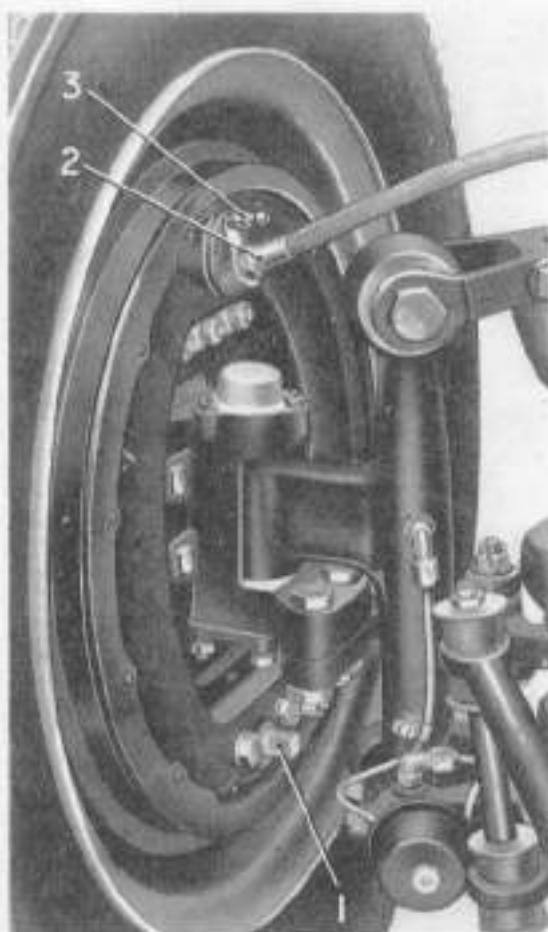
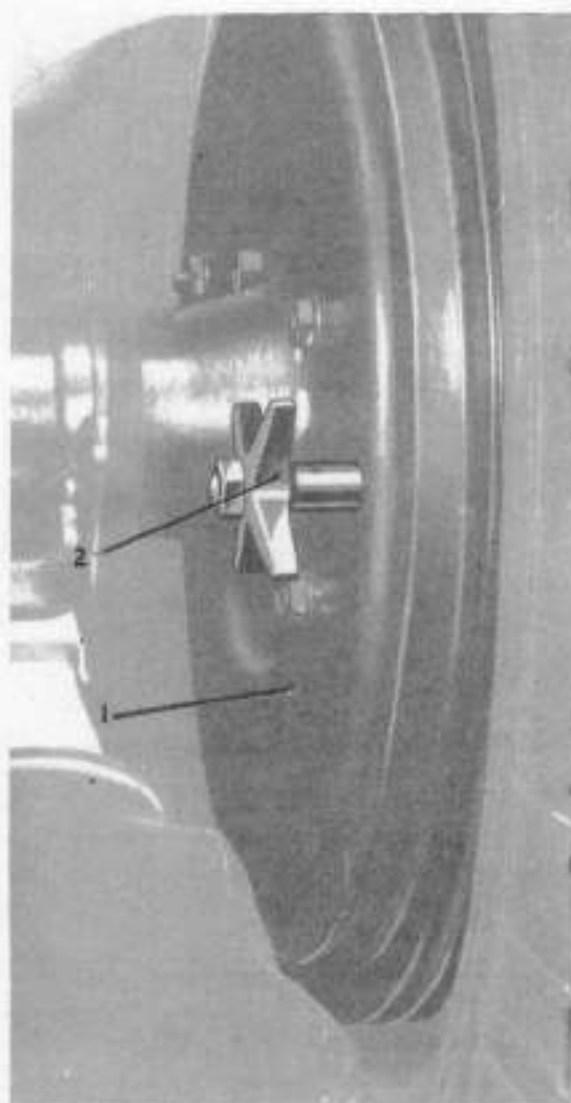
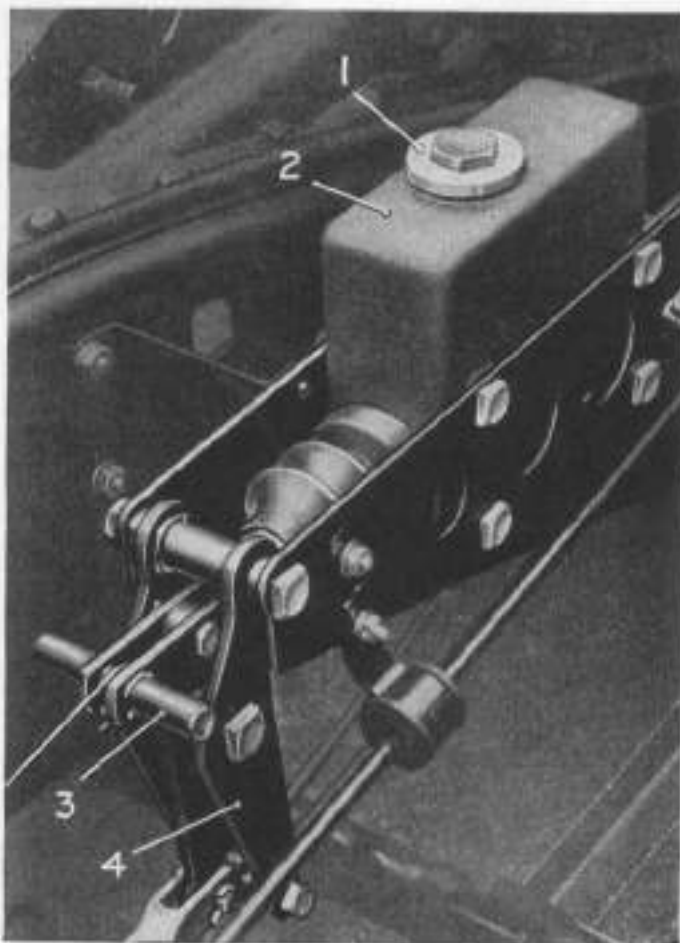

Fig. 16.—FRONT BRAKE ADJUSTMENT.
Fig. 17.—REAR BRAKE ADJUSTMENT.
Fig. 18.—THE HYDRAULIC MASTER CYLINDER AND RESERVOIR.
The method of adjustment is the same for both front and rear brakes, with the exception that a hand wheel is provided on the rear brake adjusters, while a $\frac{1}{4}$ " B.S.F. open-ended spanner must be used on the squared end of the front brake adjusters. The rear adjusters (2, Fig. 17) are located forward of the axle tubes, and the front adjusters (1, Fig. 16) directly below the steering pivot pins.
- I. Attach a clean rubber drain tube to one front brake bleeder screw (3, Fig. 16), and immerse the other end in a clean glass jar in which there is sufficient hydraulic brake fluid to submerge the end of the tube.
2. Release the bleeder screw (3) half to one turn.
3. Remove the filler plug (1, Fig. 18) and fill the reservoir integral with the master cylinder, with the recommended fluid. (See page 28.)
4. Push the joint forward until the extended pin (3) abuts against the master cylinder support brackets (4).